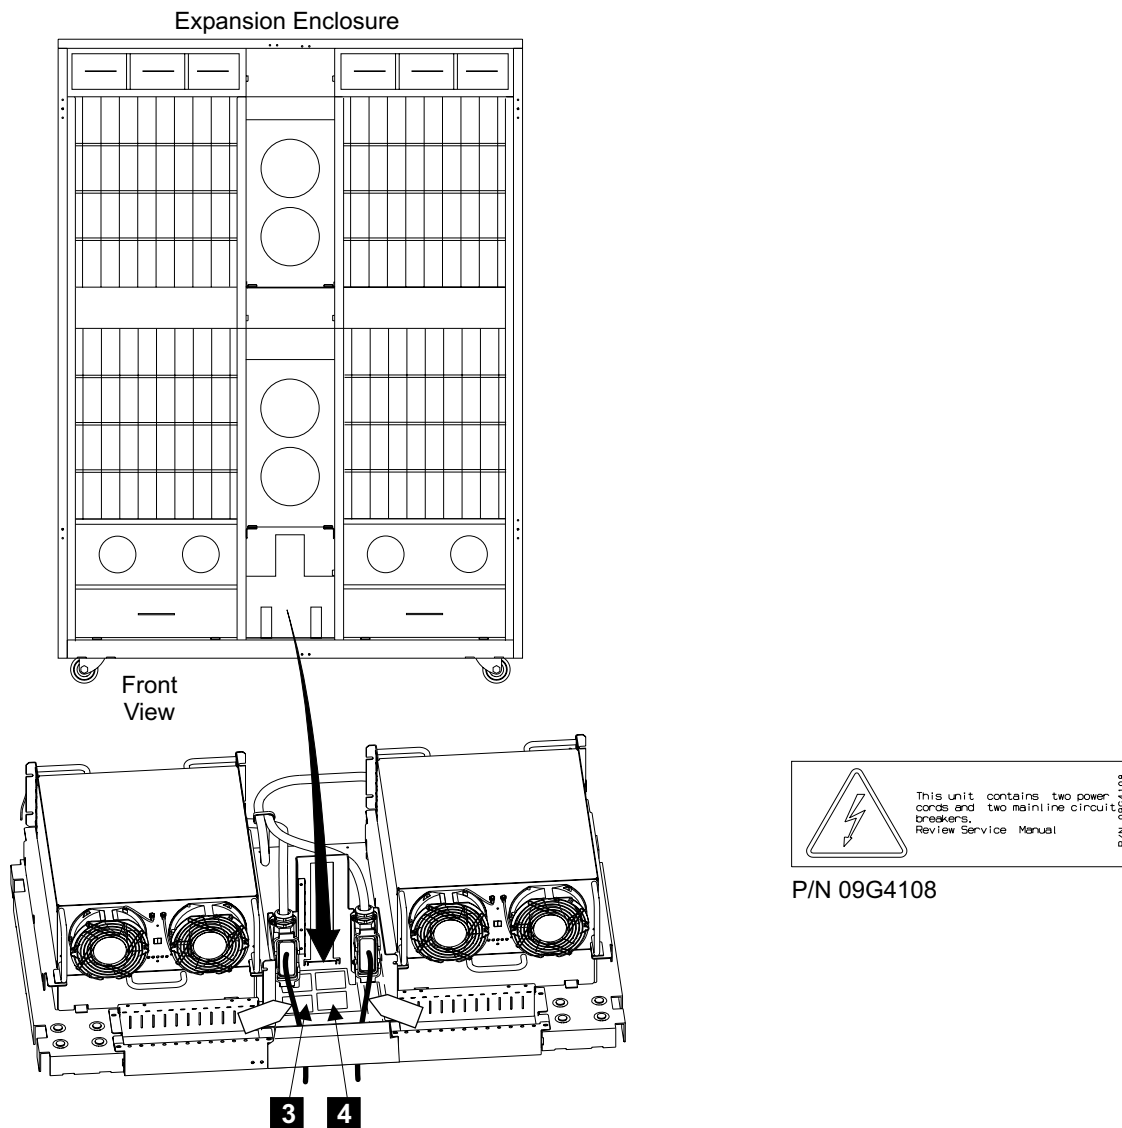

Figure 81. 2105 Expansion Enclosure, Dual Mainline Power Cable Safety Labels (S008370q)
3. Ensure that the dual mainline power cable safety labels are installed on the front tailgate areas of the 2105 Expansion Enclosure. See Figure 81 on page 200.